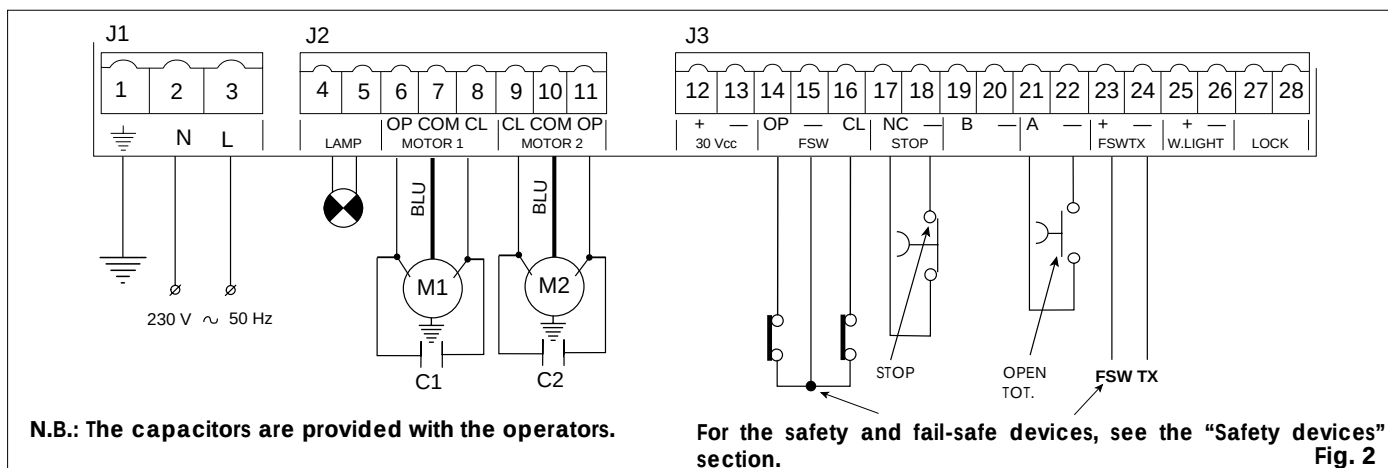

Fig. 2
① J1 terminal block (fig. 2)
② J2 terminal block (fig. 2)
③ J3 terminal block: low voltage (fig. 2) used to connect all accessories (see table 2).